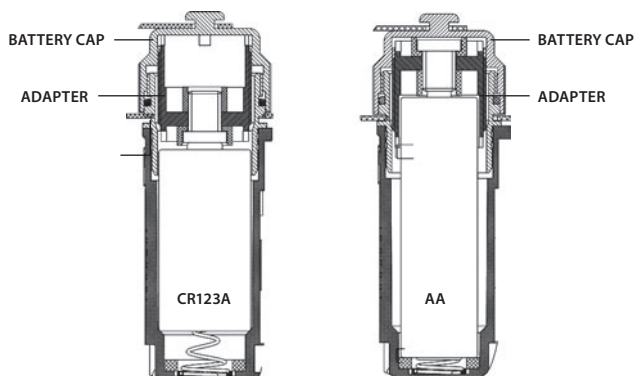

FIGURE 3-2. POSITIONS OF THE ADAPTER IN THE BATTERY CAP
1. Unscrew the battery cap (A) and check the position of the adapter (B). See Figure 3-2 for the correct positioning of the threaded adapter, which will change depending on the battery being installed.
3. Install the battery (C) into the battery compartment (E). Align the polarity symbols on the battery with those on the compartment (D).
4. Replace the battery cap (A).